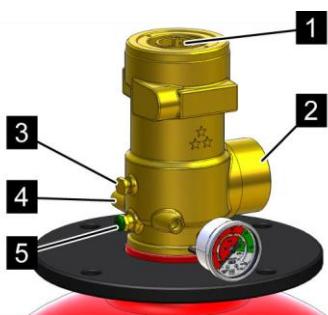

Fig. 149: Valve
Check the anti-recoil cap (Fig. 149/2) and blind plug on the control outlet (Fig. 149/3) and replace if damaged.
8. ➔ Check bursting disk (Fig. 149/5) for correct pressure range and condition.
9. ➔ Remove all external activating elements and the cap on the control connection (Fig. 149/1) of the valve.
11. ➤ Connect the filling adapter with the filling mechanism connected to the valve outlet (Fig. 149/2).